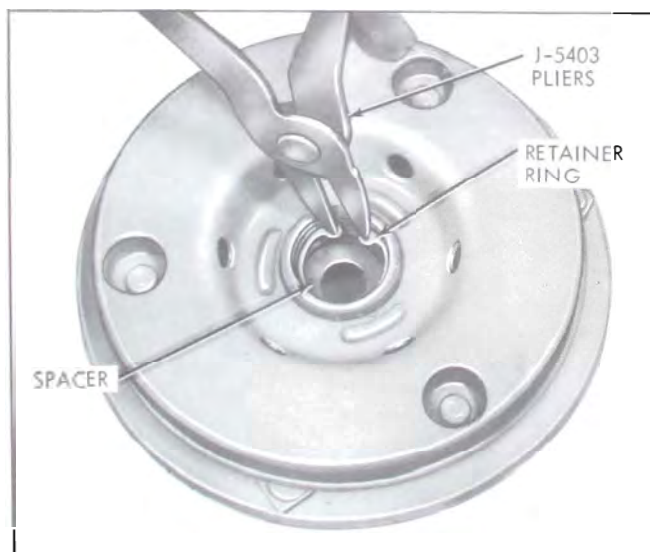

Figure 11-39—Removing Drive Plate Retainer Ring
4. Remove drive plate assembly retainer ring, using J-5403, No. 21 Truarc pliers. See Figure 11-39. Remove spacer from inside hub of drive plate.